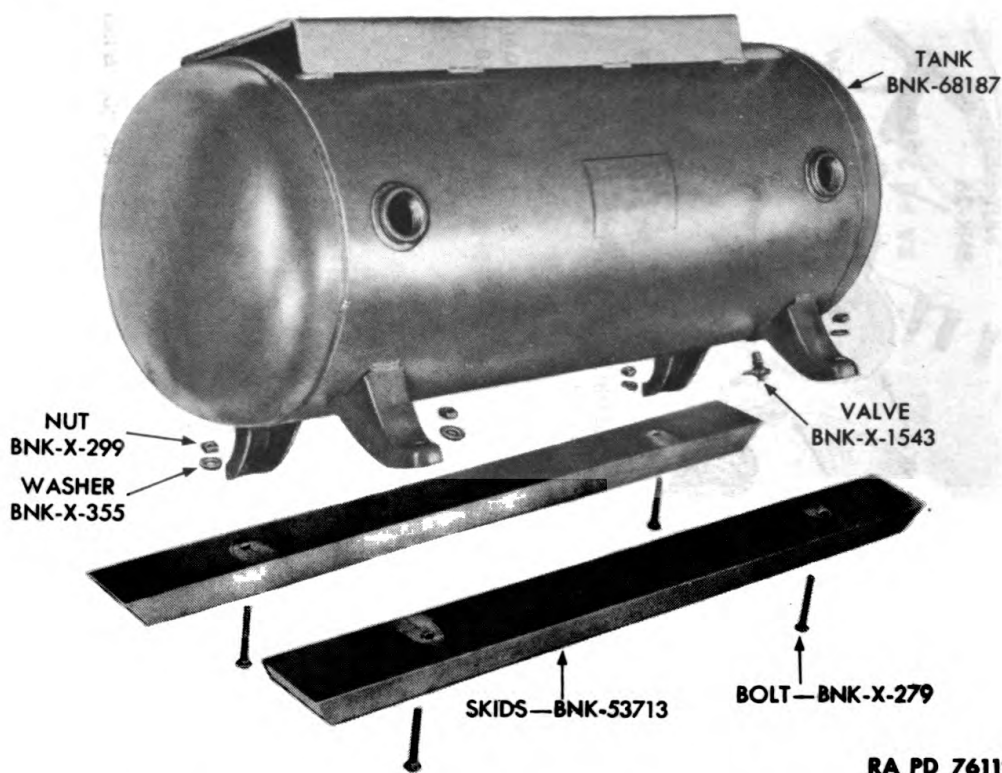

Figure 150 — Air Compressor Tank — Skids and Drain Valve Removed
(28) Remove the bolts fastening the skids to the tank (fig. 150), and unscrew the drain valve to complete the disassembly of the air compressor.